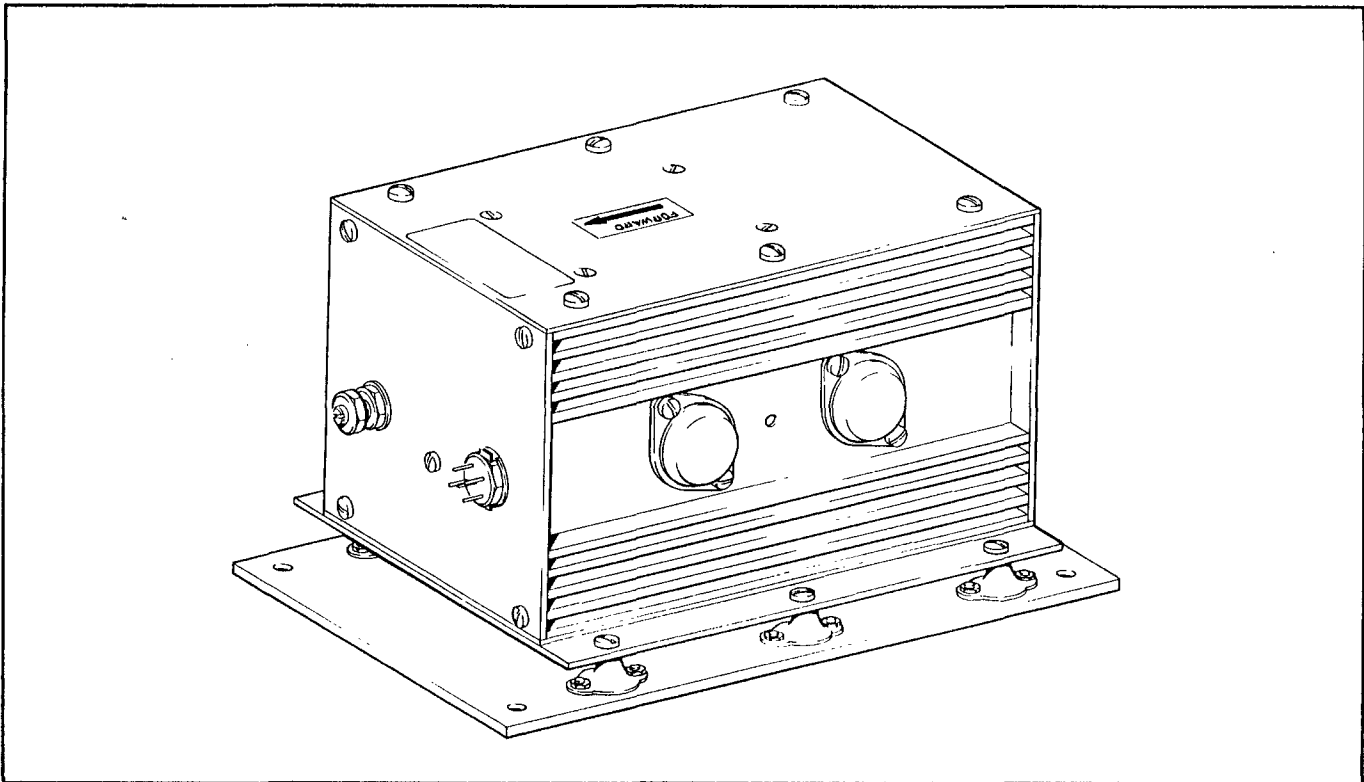

Figure 3-26. Yaw Damper Amplifier Installation,
**3-54. INSTALLATION OF YAW DAMPER AMPLIFIER. (PA-31-310, PA-31-325, PA-31-350 and PA-31P) (Refer to Figure 3-26.)**